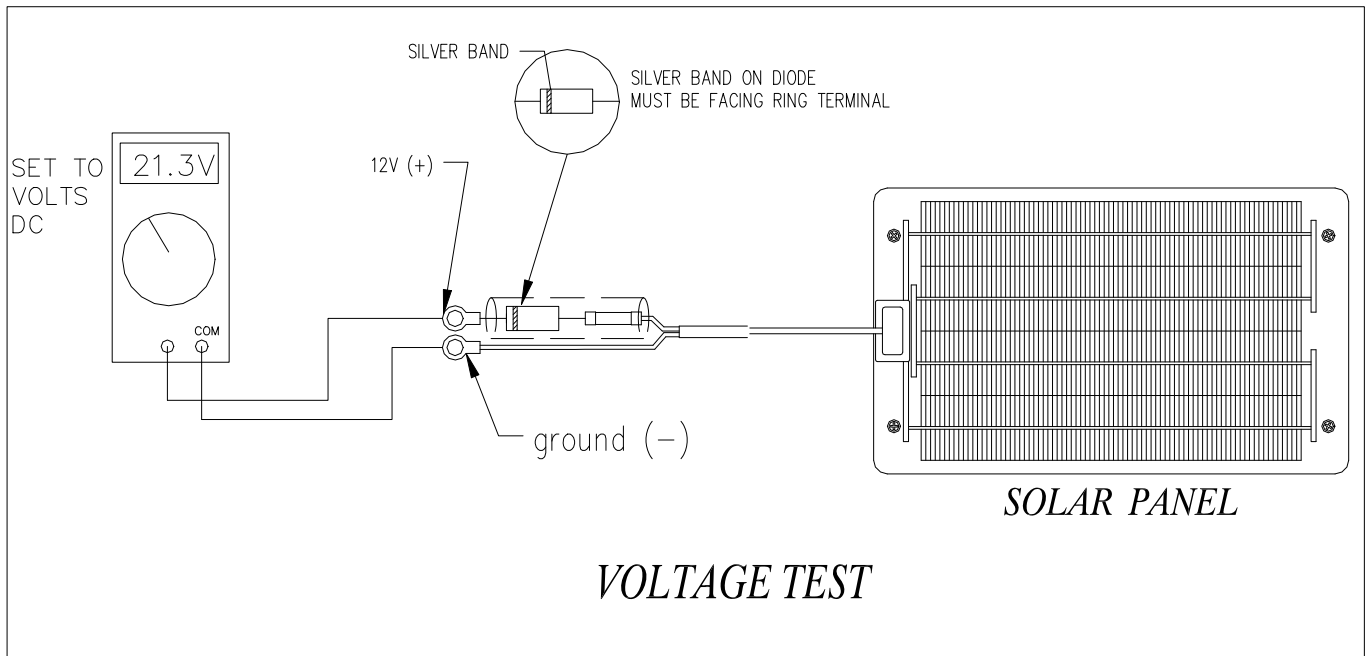

Figure 1
2. Refer to figure 1. Using a multimeter, set the meter to read 'Volts DC'. Check voltage across the two solar panel terminals. A +17 to +21V should be present when solar panel is in the sunlight. If not, the blocking diode in the positive cable is bad. Go to Test #2- Diode test.